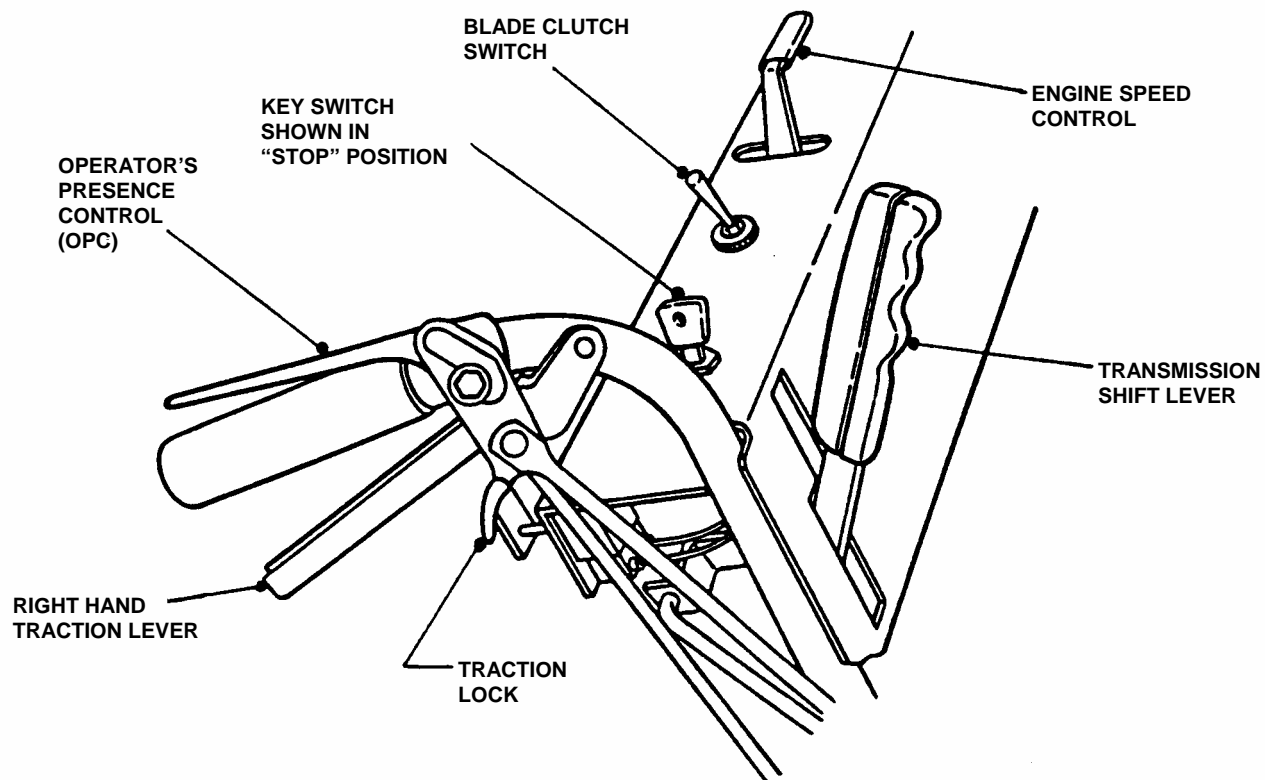

FIGURE 2.1
15. Place the Transmission Shift Lever into the **NEUTRAL (N)** position.
17. Stop engine. Turn key switch to "Stop" position. Remove key. See Figure 2.1.